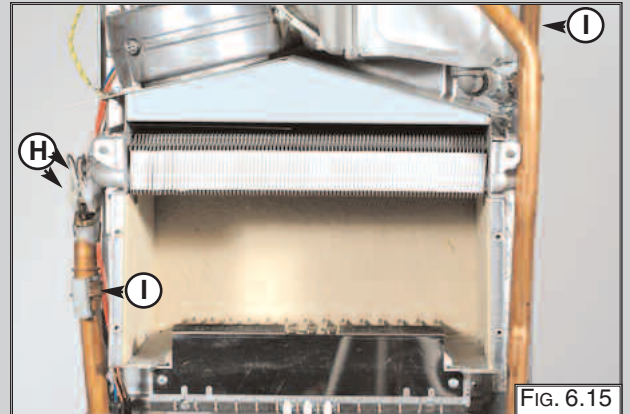

FIG. 6.15
3. Remove the overheat thermostat sensor "H" (FIG. 6.15);
4. Remove the clips "I" (FIG. 6.15);